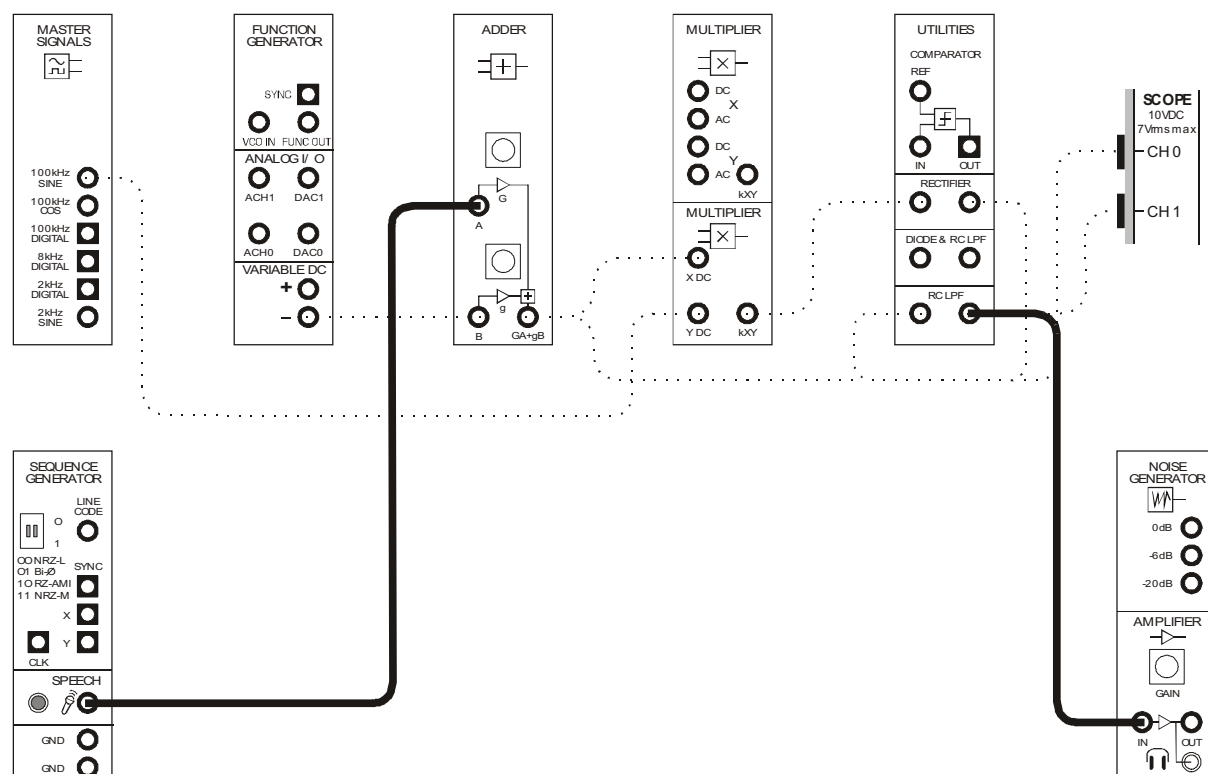

Figure 6
31. Modify the set-up as shown in Figure 6 below.